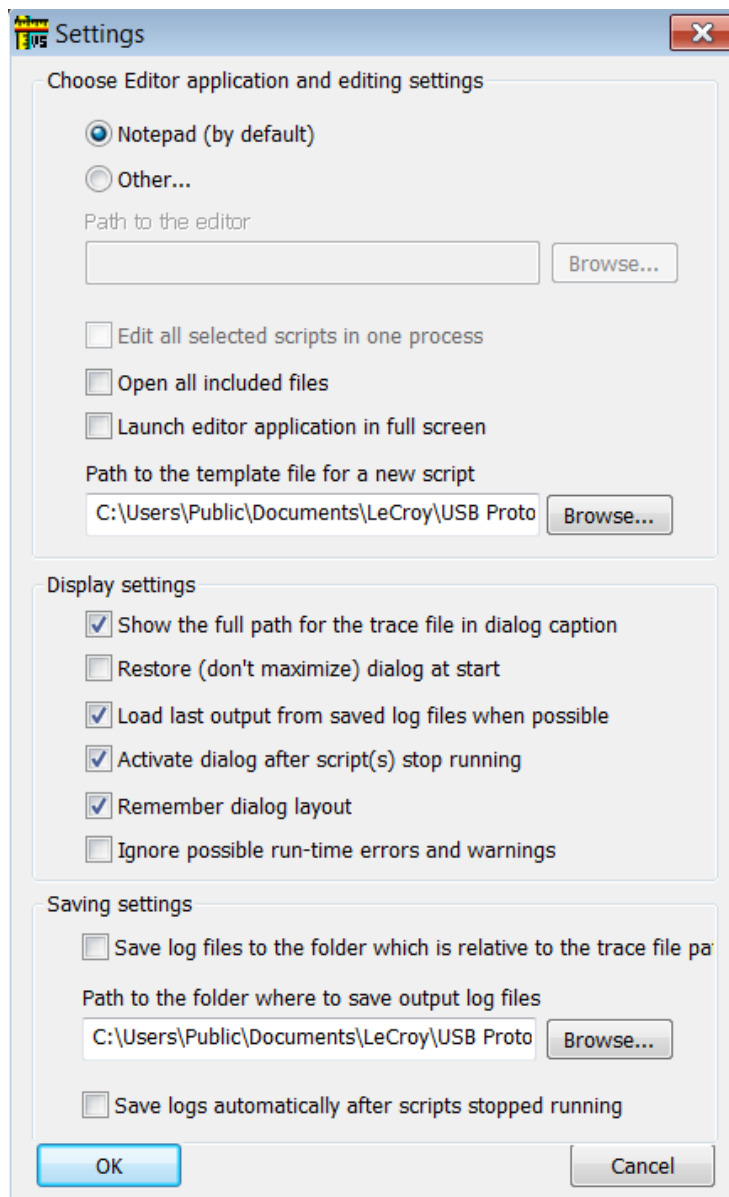

Figure 9.57: Settings Dialog
4. After choosing **Settings** from the drop-down list or the button, the Settings dialog appears (see Figure 9.57 on page 323.)